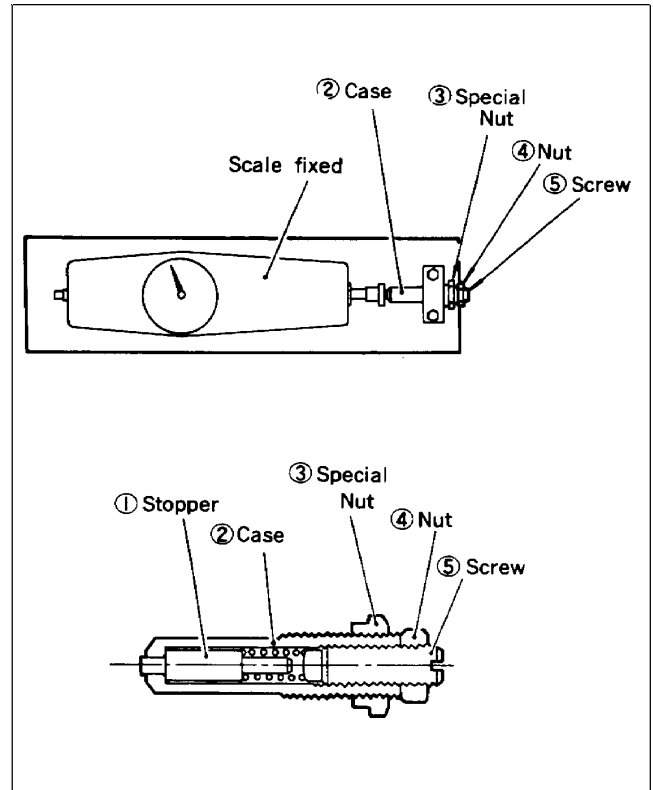
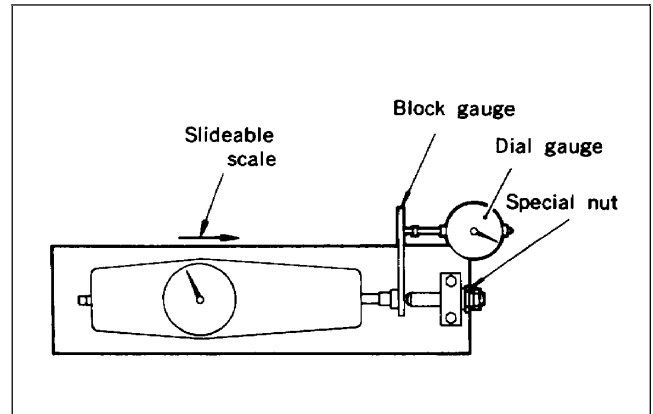

Figure 37
Figure 38
1. Assemble the torque spring set as shown in Figure 37.
3. Set dial on spring scale to zero (0). Tighten spring case until a value of  $970^{+10}_{-0}$  grams is obtained. Lock the spring case in that position with special nut.
5. To inspect torque spring set for proper adjustment, use a test set up as shown (Fig. 38). Gradually push scale against torque spring set until stopper is moved (or pointer of dial indicator moves). Check that load applied to torque spring at that moment is  $950^{+20}_{-30}$  grams.